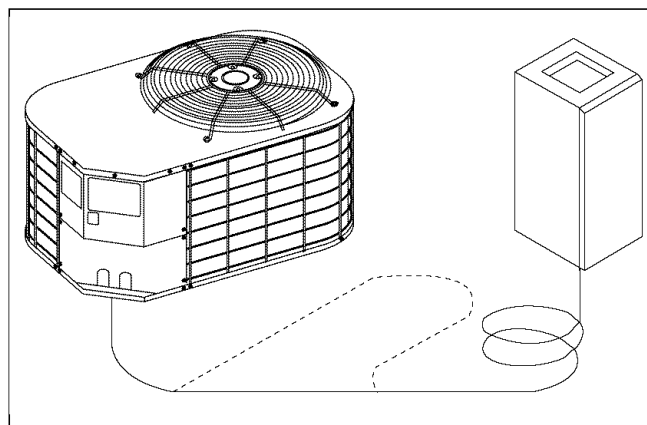

FIGURE 4: Excess Tube
- b. Excess tubing must be coiled horizontally so the flow of refrigerant is from top to bottom of the coil and toward the outdoor unit. Another method is to form a horizontal "U" large enough to take care of excess. See Figure 4.